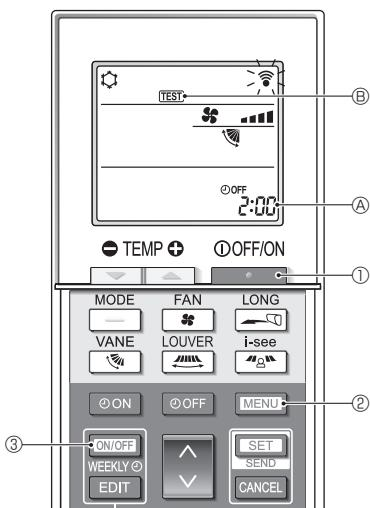

Fig. 7-5
■ Test run (Fig. 7-5)
- Press the button ① to stop the air conditioner.
- If the weekly timer is enabled (**WEEKLY** is on), press the button ③ to disable it (**WEEKLY** is off).
- Press the button ② for 5 seconds.
- Press the button ②.